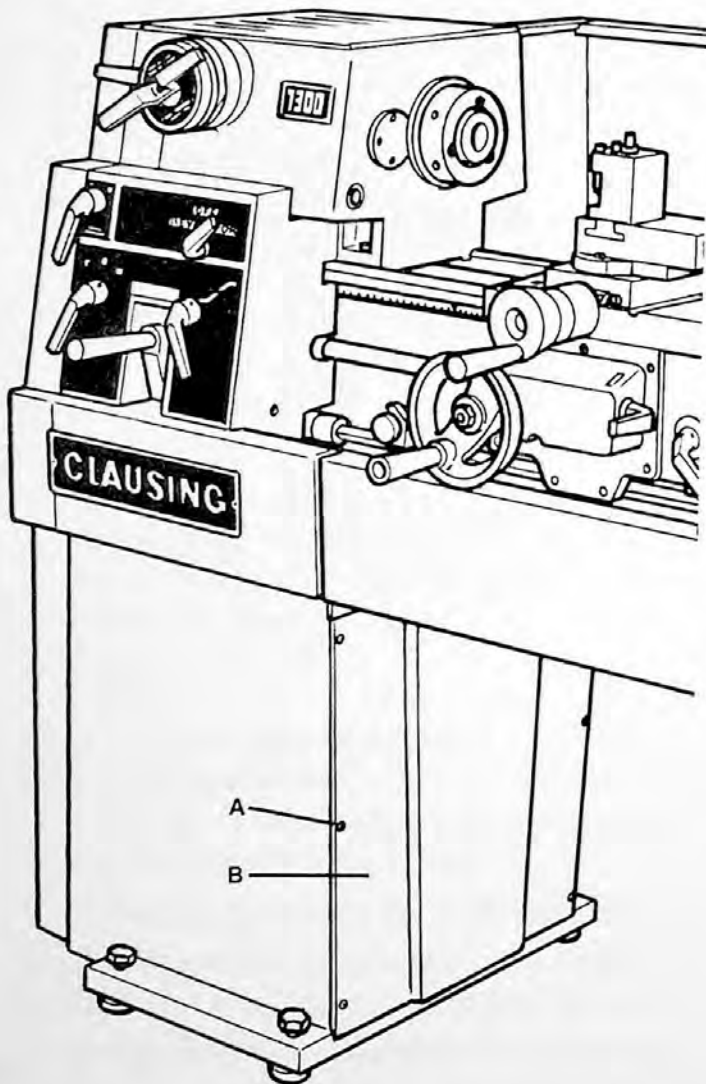

FIGURE 29
1. Remove 6 screws (A, figure 29), remove panel (B) from headstock pedestal.